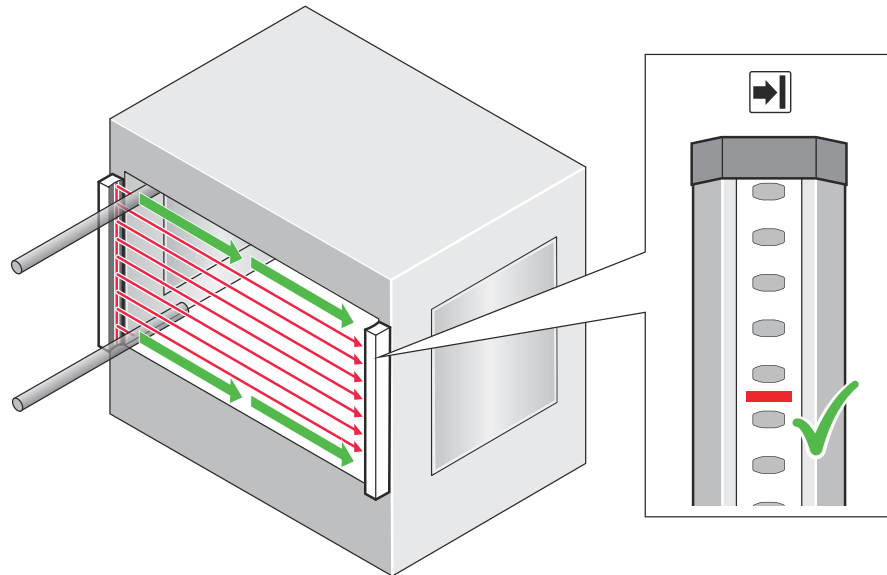

Figure 25: Test rod check: Step 3
3. Then, guide the test rod along the edges of the area to be protected, as indicated by the arrow, see figure 25.